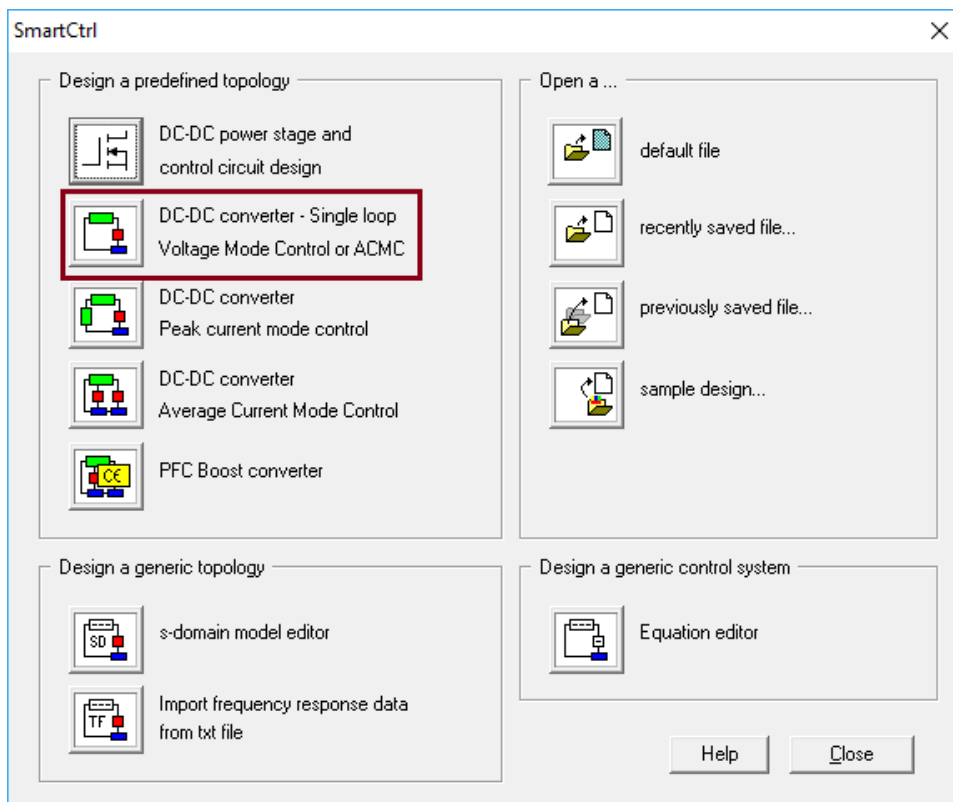

Figure 2: SmartCtrl initial window
2. To begin the design of a single control loop DC/DC converter click on *DC-DC converter – single loop Voltage Mode Control or ACMC*. See Figure 2.